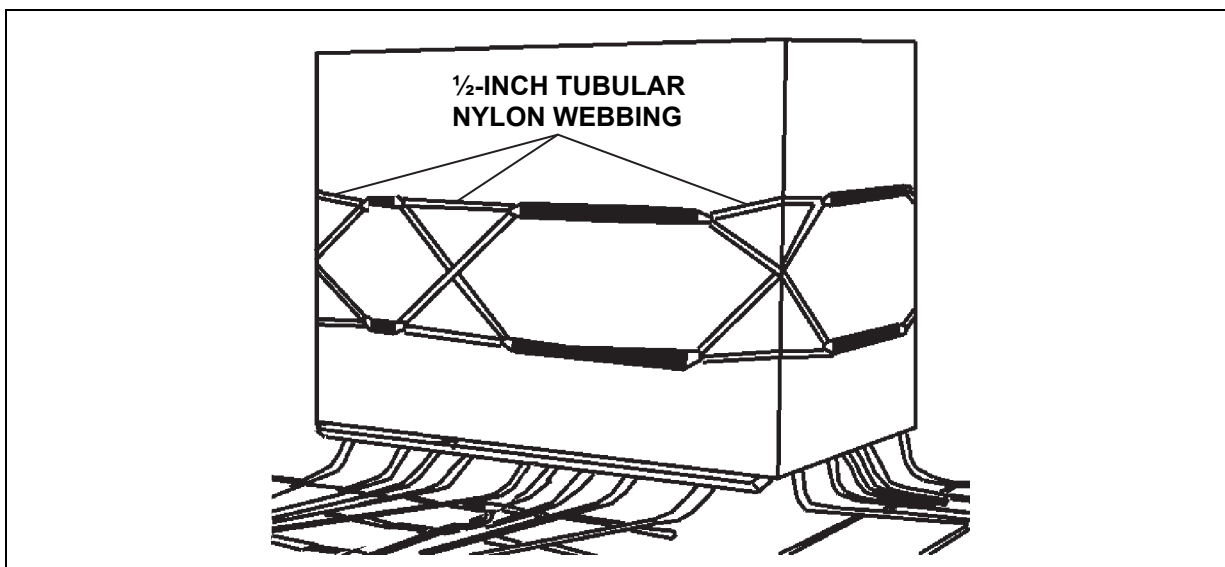

Figure 8-21. Cover Ties Installed
- Use six lengths of 1/2-inch tubular nylon webbing to lace the cover closed. Pull the webbing tight and tie the running ends in a surgeon's knot and bow knot. Tape the excess and knots leaving one running end slightly exposed to allow rapid derigging (figure 8-21).